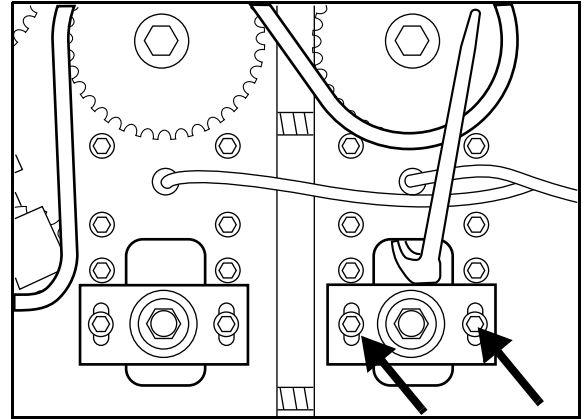

Fig. 1
- Tighten the chain by loosening the screws in the lower bearing housing. Push the bearing housing downwards with a pinch bar, see Fig. 1. Tighten the screws for the bearing housing.